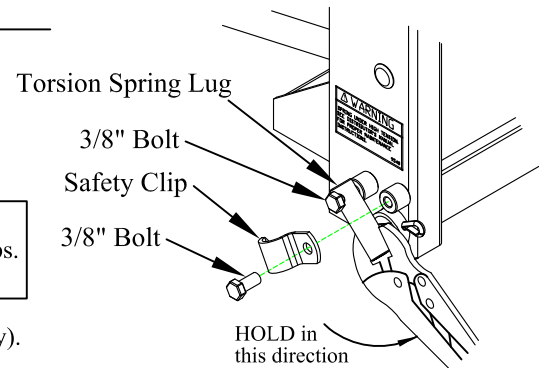

Figure 1: Release the round torsion spring.
Use this method if your lift gate has a round torsion spring (Figure 1).
2. **REMOVE** the 3/8" bolt from the safety clip only (Figure 1).
Use a large vice grip (Figure 1) and continue to hold pressure on the lug while performing the next steps.